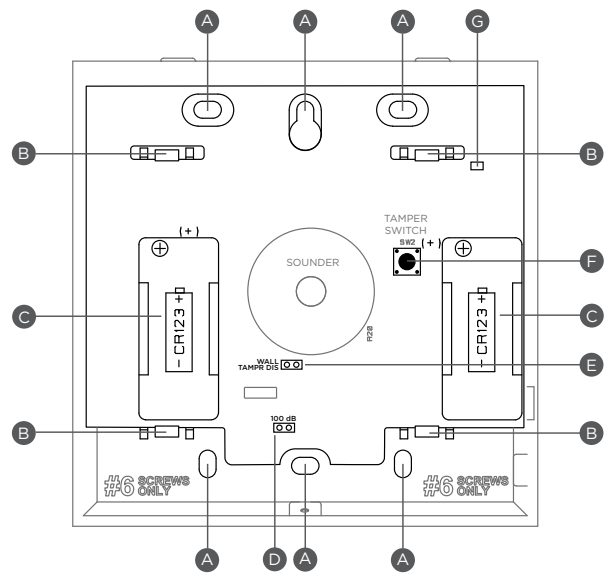

Figure 1: 1135 Details
Observe polarity and install both CR123 batteries. For the battery holder location, refer to Figure 1.
A two-position header is provided to disable the wall tamper. Refer to Figure 1. To disable the wall tamper, place the jumper over both header pins.
The siren is equipped with a 100/110 decibel (dB) jumper and a two-position header to change the decibel output. The siren is shipped at the 110 dB output level with the jumper placed on one pin for storage. If the 100 dB setting is required, place the jumper over both header pins. Refer to Figure 1.
4. Install the two CR123 batteries and press into place. Refer to Figure 1 for battery locations.